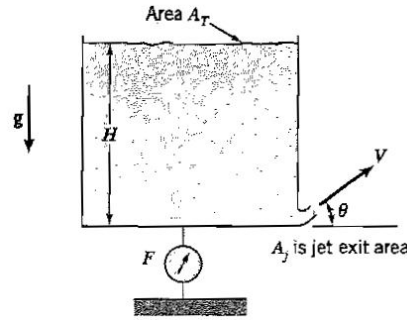

Figure P4.37
4.37 A jet of constant density fluid rises without loss into the atmosphere at an angle θ from a large tank, as shown in Figure P4.37. The exit is located very near the bottom, and the change in water depth H with time may be neglected.